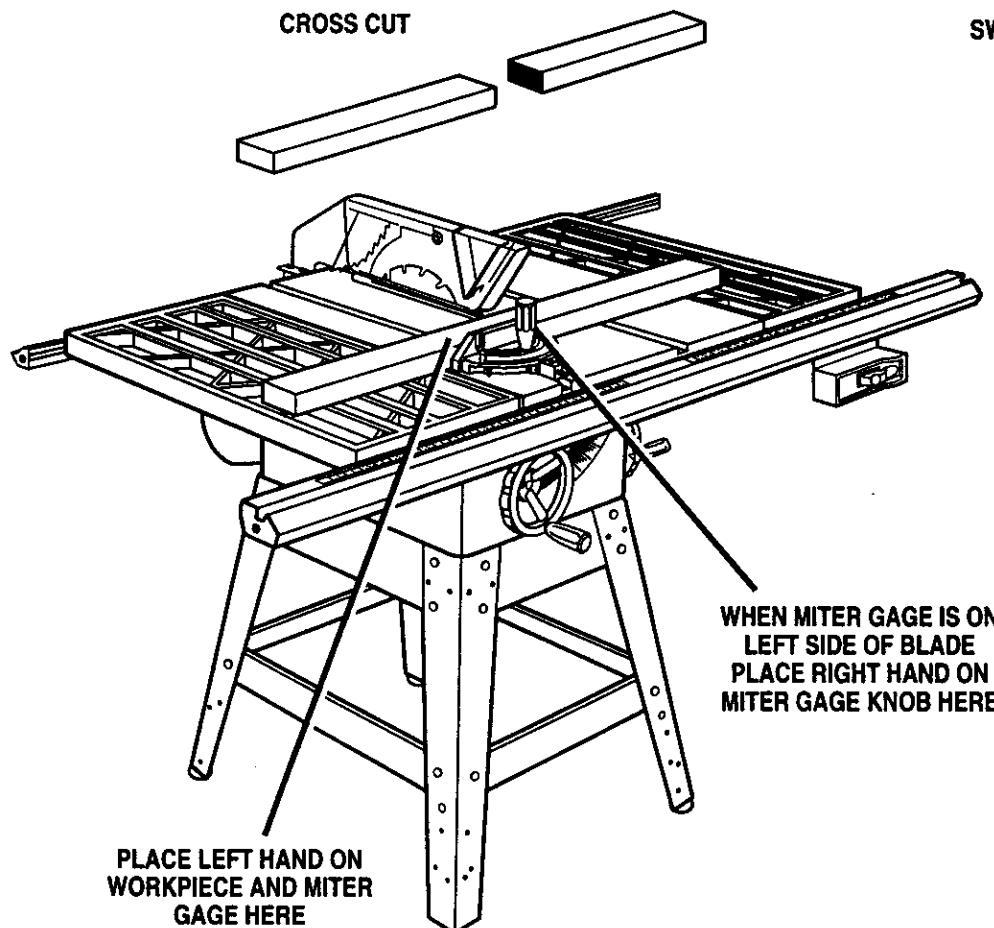

Fig. 50
See Figures 50, 51, 52, and 53.
- Set the miter gage to 0°. See Figure 50. Make sure miter gage knob is securely tightened.
- The miter gage may be used in either of the two grooves in the table. When using left groove, hold workpiece firmly against the miter gage base with your left hand and grip the knob with your right hand. When using right groove, hold workpiece firmly against the miter gage base with your right hand and grip the knob with your left hand. See Figure 50.